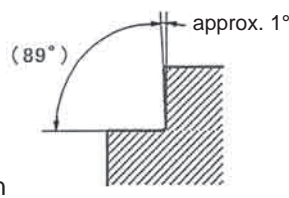

Fig.2
• MEF type's side edge is designed to have a slight clearance for the countersink milling. Therefore, worked side wall is approx. 1° inclined against the vertical face. (See Fig.2)